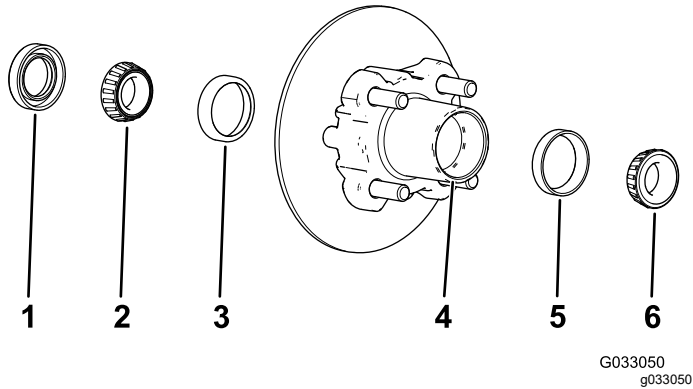

Figure 36
1. Remove the outboard bearing and bearing race from the hub (Figure 36).
2. Remove the seal, inboard bearing from the hub (Figure 36).
5. Clean the cavity of the hub of all grease, dirt, and debris (Figure 36).
7. Fill the cavity of hub 50 to 80% full of the specified grease (Figure 36).
8. Assemble the inboard bearing onto the race at the inboard side of the hub and install the seal (Figure 36).